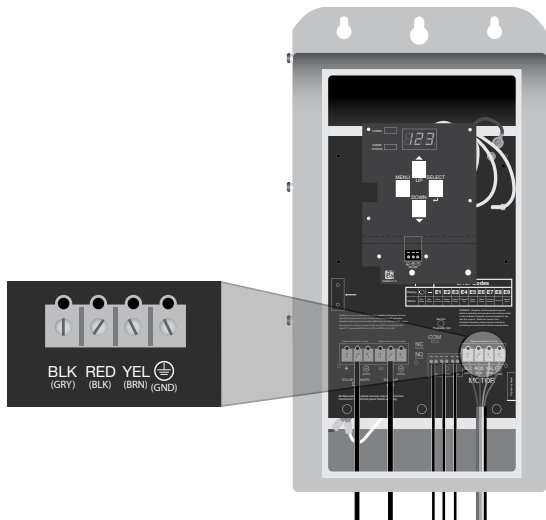

Figure 8: Motor Wiring Connection
1. Connect the cables from the Pump/Motor Assembly to the Terminal Block labeled “MOTOR” and marked BLK, RED, YEL, and GND (Figure 8). (Torque specification: 15 in-lbs/ 1.7 N-m).